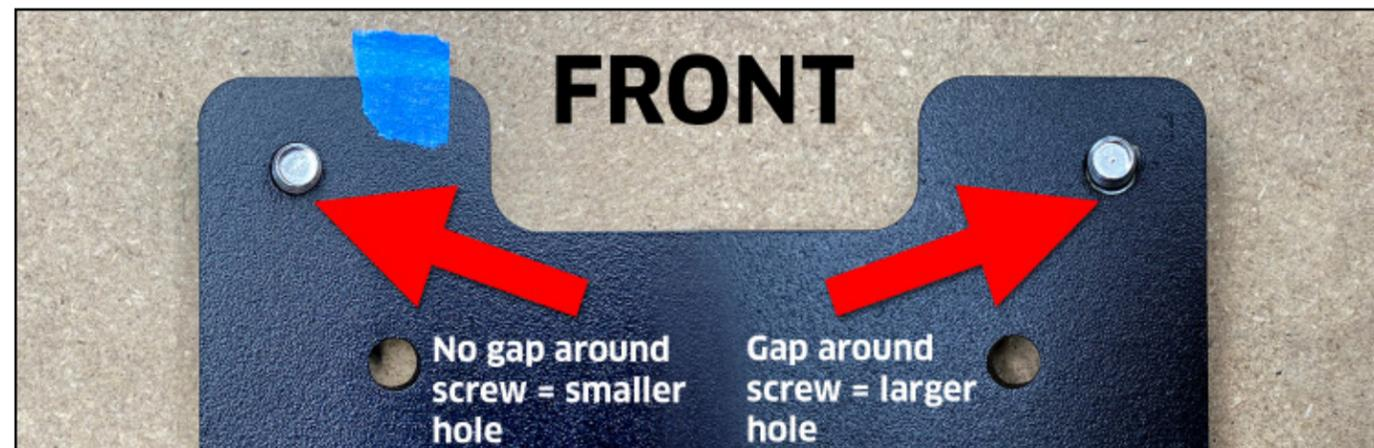

Figure 3-10
PRO TIP: Insert the tramming plate hardware, two (2) M5x8mm screws, from the back and examine each screw hole for a gap. The larger hole will leave a gap around the screw, the smaller hole will not. Mark the smaller, standard-sized M5 screw hole with a piece of tape. See **Figure 3-10**.